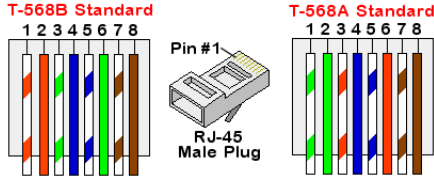

Figure 36: Standard cable wiring
- c. Insert the eight wires into an RJ45 connector, as described in *Figure 36*
7. For the switch/router side, use a pre-terminated cable or use a crimper to prepare an RJ45 communication connector: Insert the eight wires into the RJ45 connector in the same order as above (*Figure 36*).